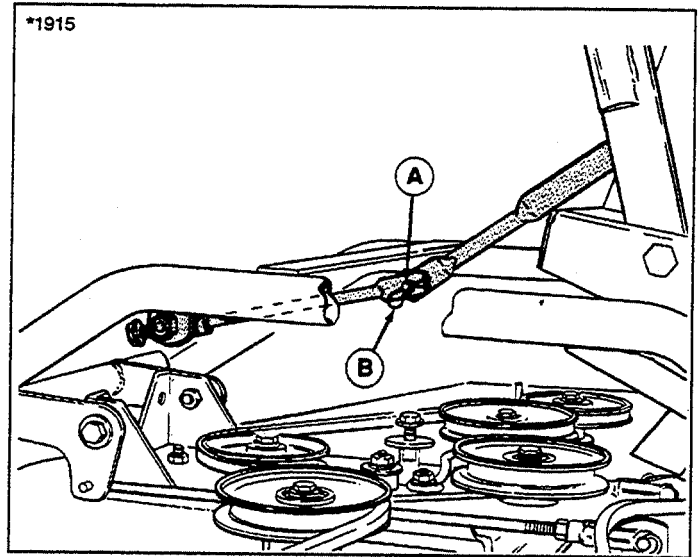

Figure 7. Lift Arm Halves
5. Connect top and bottom halves of mower lift arms. See figure 7.
- See figure 7. Disconnect the top and bottom halves of the mower lift arm. Install spring clip onto weld stud.